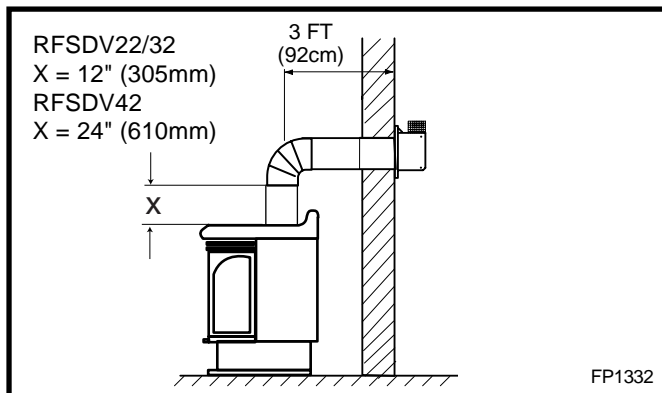
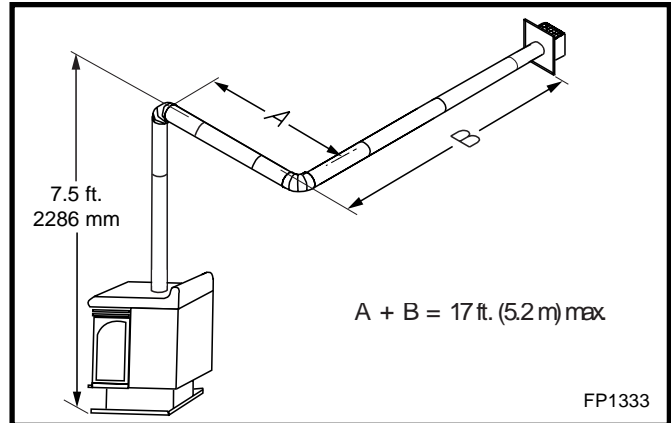

Fig. 10 Maximum horizontal run with vertical rise.
Fig. 11 Horizontal run reduction.
- The maximum number of 90° elbows per side wall installation is three (3).
- For RFSDV22 & RFSDV32 the maximum horizontal run off a minimum 12" (305mm) vertical rise is 3' (914mm). (Fig. 10)
- For the RFSDV42 a minimum of 24" (610mm) vertical rise is required for a maximum horizontal run of 3'(914mm). (Fig. 10)
- If a 90° elbow is used in the horizontal vent run (level height maintained) the maximum horizontal vent length is reduced by 36" (914mm). (Fig. 10) This does not apply if the 90° elbows are used to increase or redirect a vertical rise. (Fig. 11)
(Fig. 11 Dimension A plus B must not be greater than 17' (5.2m))